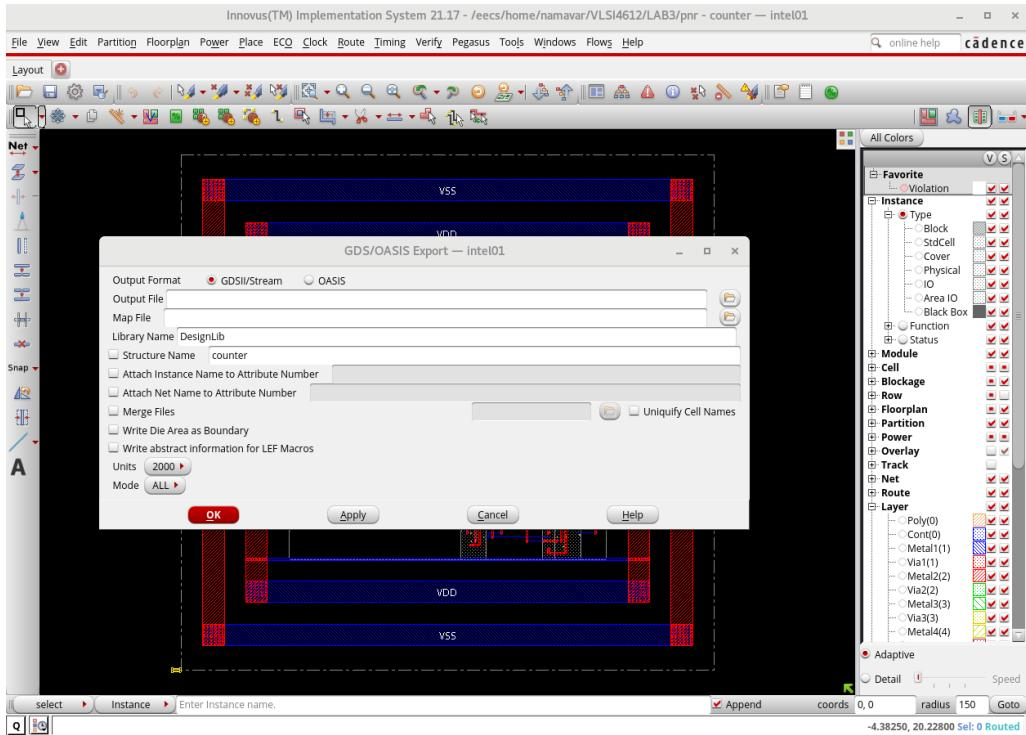

Figure 29: GDS/OASIS Export window in Innovus.
2. The **GDS/OASIS Export** window will appear, as shown in Figure 29.